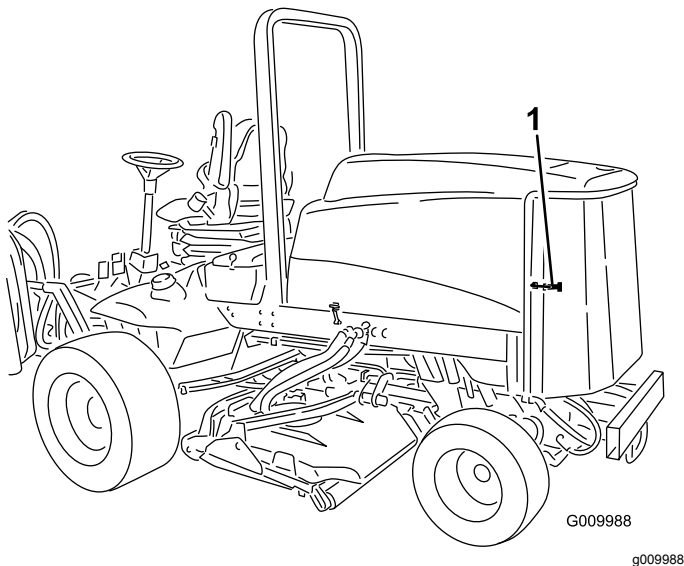

Figure 49
1. Unlatch and swing open rear screen (Figure 49). Clean the screen thoroughly of all debris.